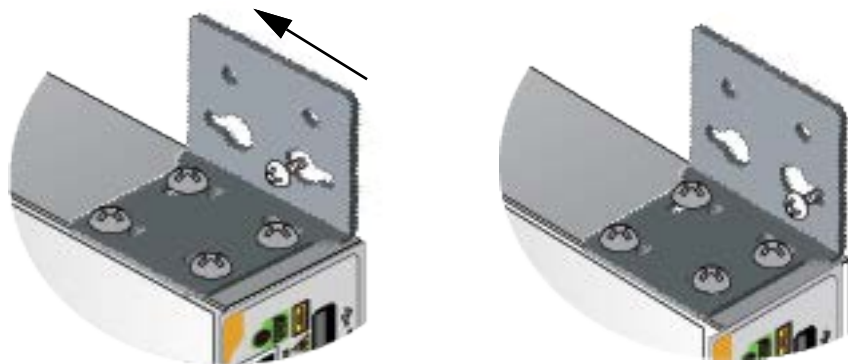

Figure 28. Sliding the Key-hole Slot under the Screw Head
3. Install the brackets on the screws by sliding the key-hole slots under the screw heads. See Figure 28.